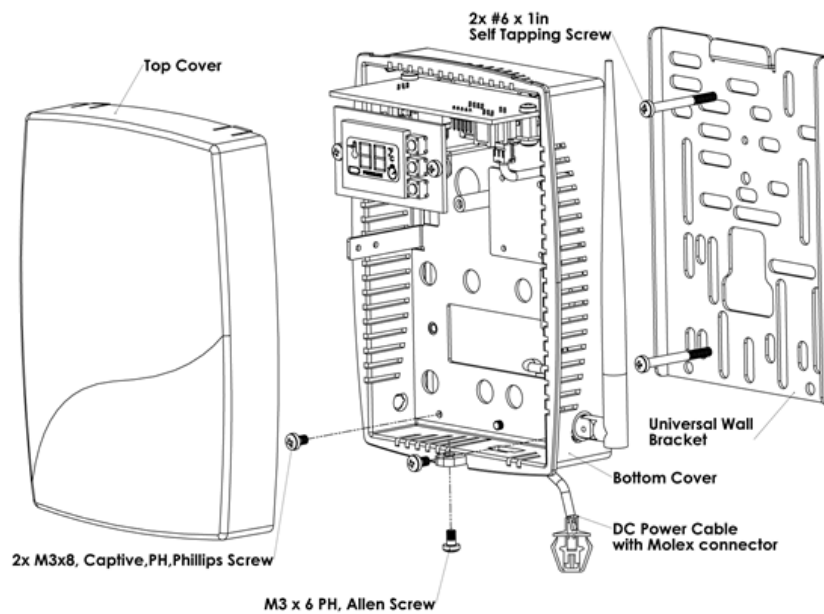

Figure 3. Mounting RWAL onto the Universal Wall Bracket
2. Mount the RWAL on the universal wall bracket using the captive screws, shown in Figure 3.